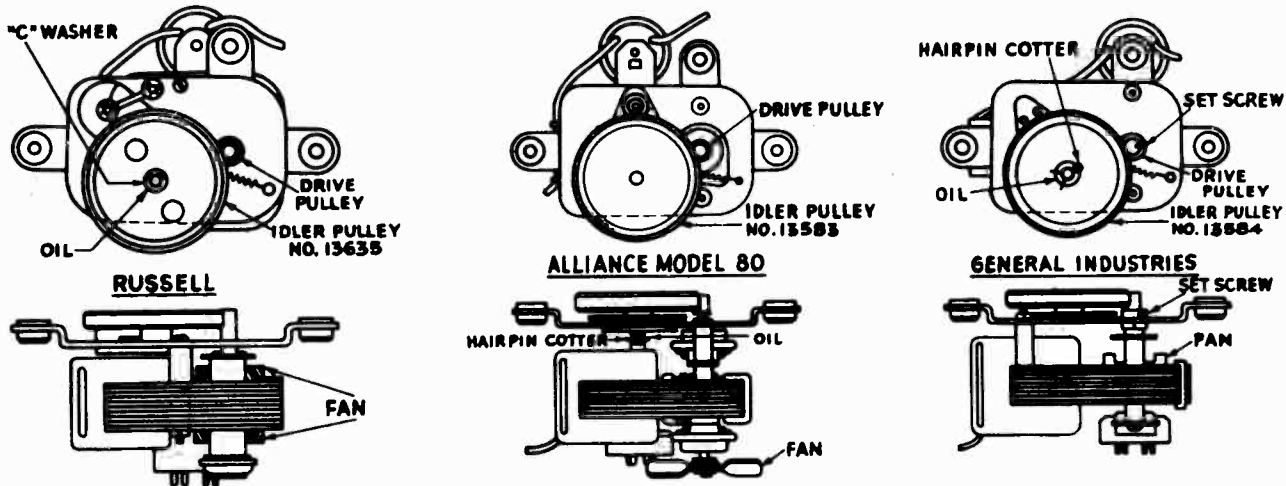

FIGURE 3. P-56 and P-51 Motors
- Idler pulley (see figure 3).
OIL SEE FIG. 3 OIL
ordering an idler Pulley or 50 cycle drive pulley. Each make may readily be distinguished by noting the location of the fan on the motor and the location of the hair pin cotter or "C" washer holding the Idler pulley as shown in above figure 3.